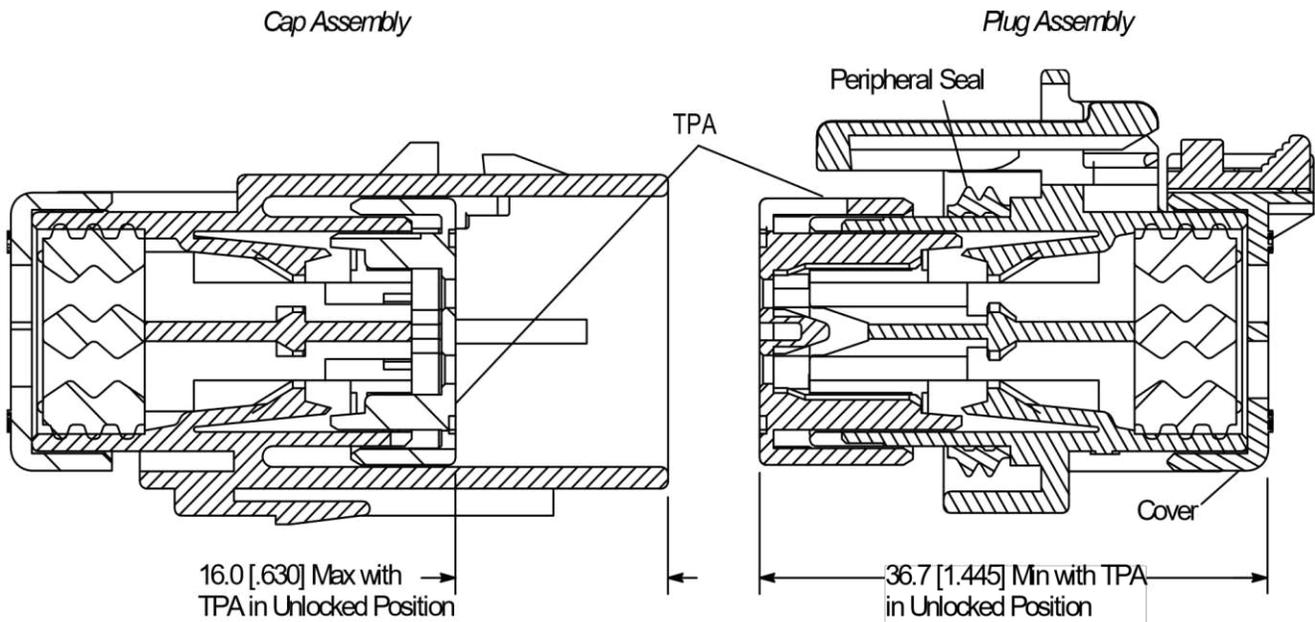

Figure 5
Crimped contacts (Refer to Application Specification 114-13045) shall be manually loaded into the housing assemblies. Socket contacts shall be loaded into plug assemblies, while the pin contacts shall be loaded into the cap assemblies. Refer to Figure 5 and insert the contacts into the housings assemblies with the information as follows:
1. Verify that the TPA is in the pre-staged position (un-locked). To verify the plug assembly TPA is in the correct position, check the distance from the cover to the mating face of the TPA as shown in Figure 5 (there will be clearance between the seal and the TPA as illustrated. The location of the TPA for the cap assembly should be as shown in Figure 5 when in the pre-staged position.